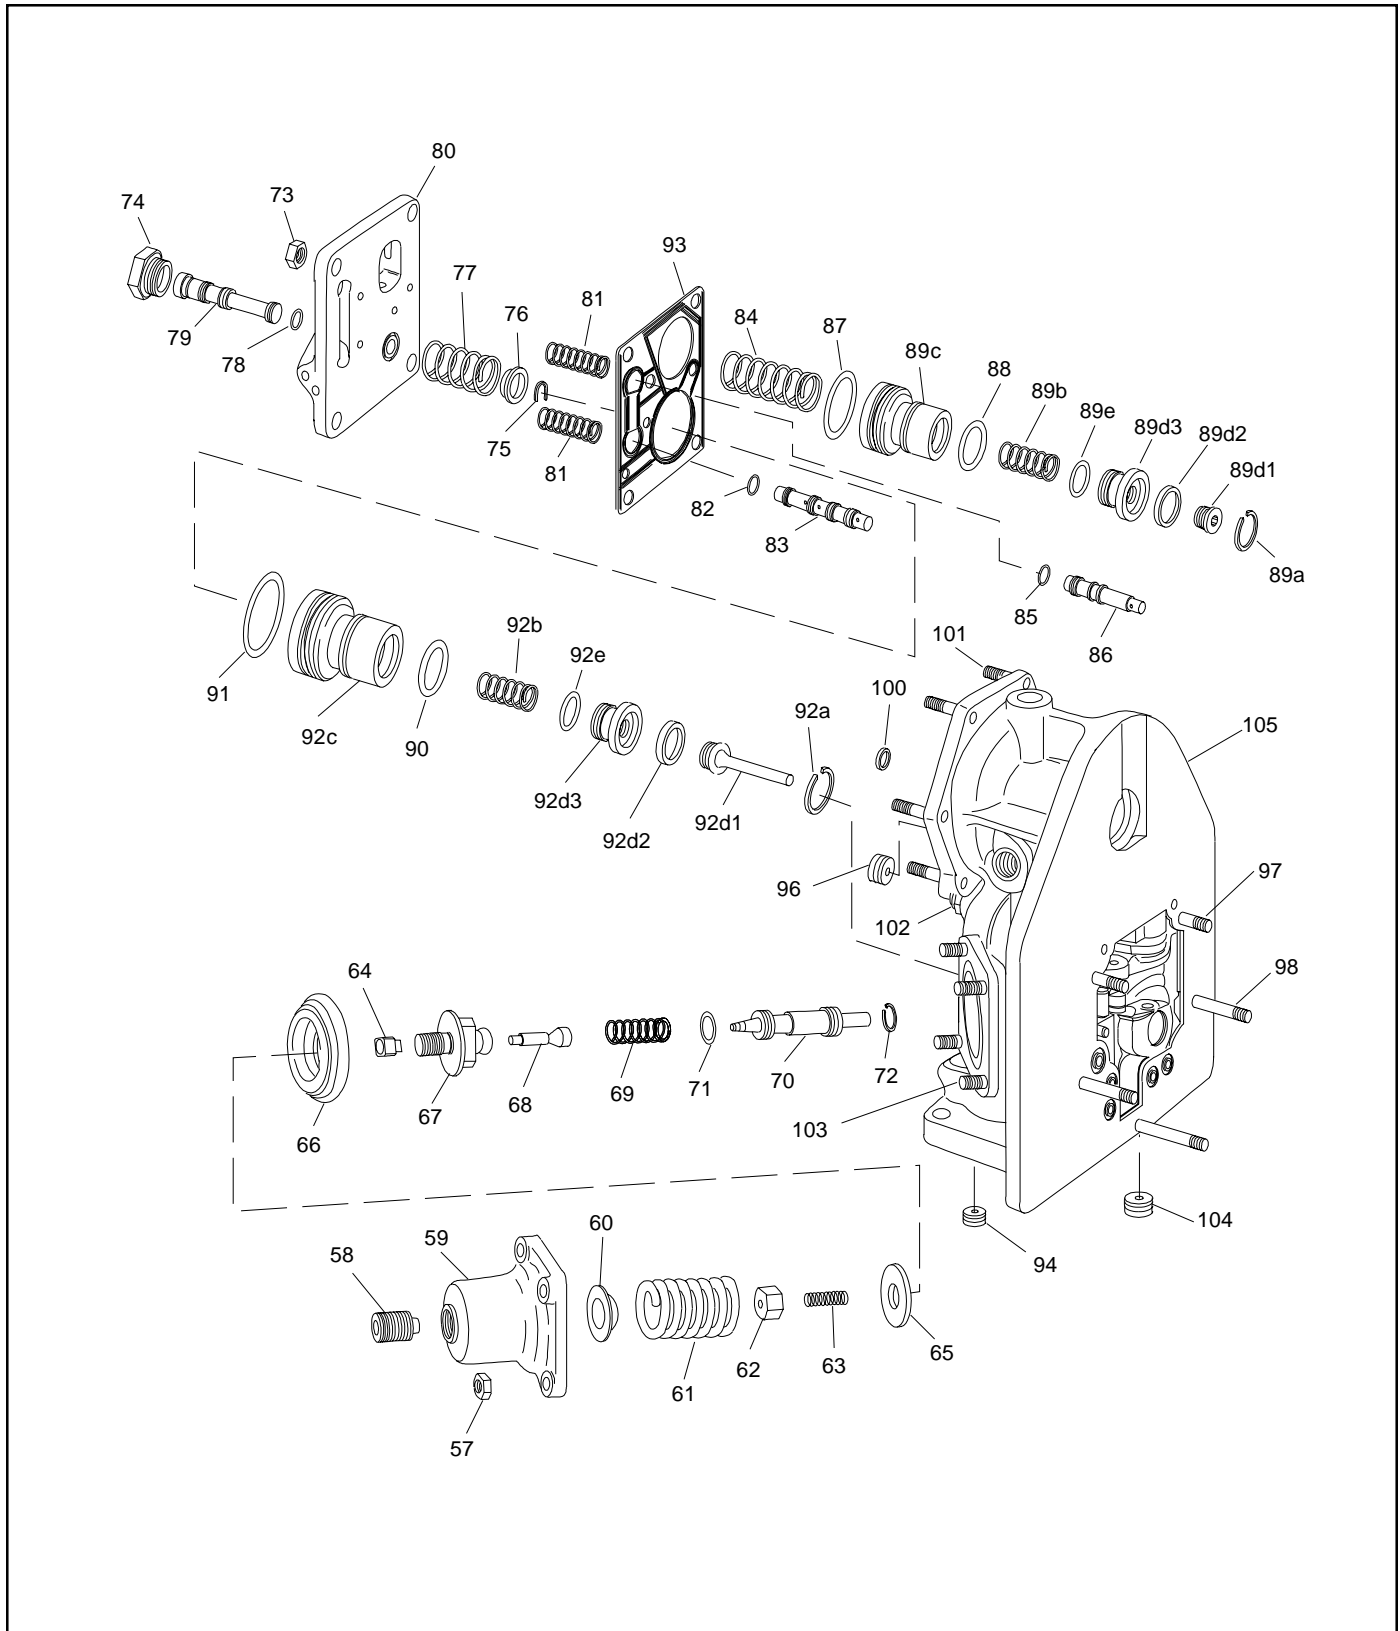

Figure 5 - 26-B-1 Brake Valve
7.2.2 Referring to Figure 5, turn the regulating valve adjusting screw (58) outward, using the 1/2" multi-spline key, (Wabtec Corporation Part No. 517557), to release tension on the regulating valve spring (61).
7.2.14 Referring to Figure 5, remove the four $\frac{3}{8}$ " hex nuts (73) and back cover assembly from the brake valve body (104).
7.3.1.2.1 (Referring to Figure 3 - 34 and Figure 5 - 94, 95 and 103) The chokes **MUST BE** removed, cleaned and replaced one at a time. Where this process is followed, misapplication
7.5.5 (Figure 5) Insert the right gasket (99) into the groove in the brake valve body at the relay valve cover mounting face.
7.5.7 (Figure 5) Insert the retaining ring (72) into the regulating valve bush being careful not to score the bushing.